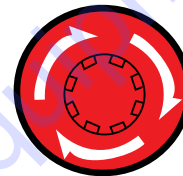

Figure 59. Emergency Stop Button
1. To stop the engine in the event of an emergency, push the **Emergency Stop Pushbutton Switch** (Figure 59). Activating the Emergency Stop Switch will cause the contacts on the main breaker to **OPEN**.